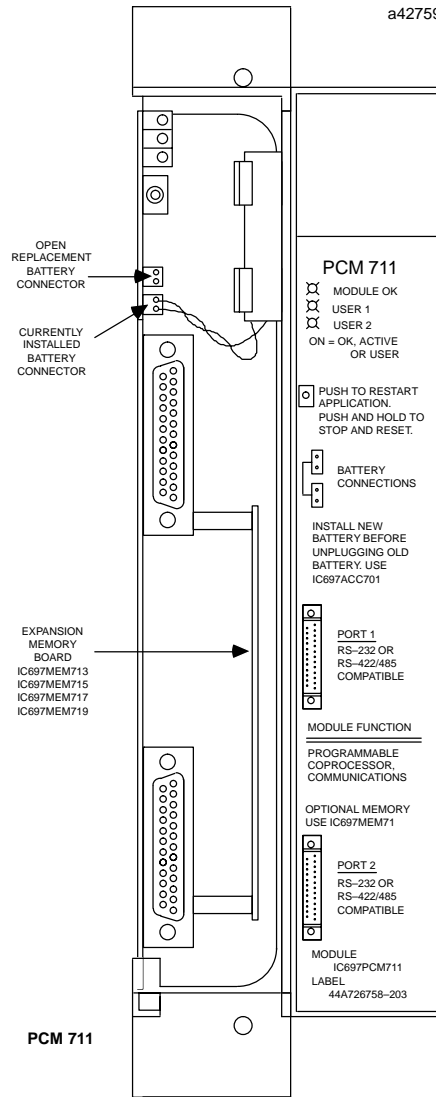

Figure 2. Programmable Coprocessor Module - User Details
- Connect the battery to either of the battery connectors on the module. (See figure 2)
The PCM can operate with or without an expansion memory daughter board. The base memory on the PCM board has up to 95 Kbytes user memory. The expansion memory daughter board permits expansion of program/data memory by 64, 128, 256 or 512 Kbytes. The battery which supports this memory is located on the base board housing as shown in figure 2.